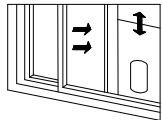

Figure 7
- (1). Half open the window and mount the window sealing board assembly onto the window, either vertically or horizontally (as shown in Figure 7 and 8).
- (2). Pull apart the parts of the window sealing board assembly, adjust the distance of the window sealing board assembly pulled apart so that the two ends of the assembly come into contact with the window frame, and fasten the parts of the assembly with copper screws.